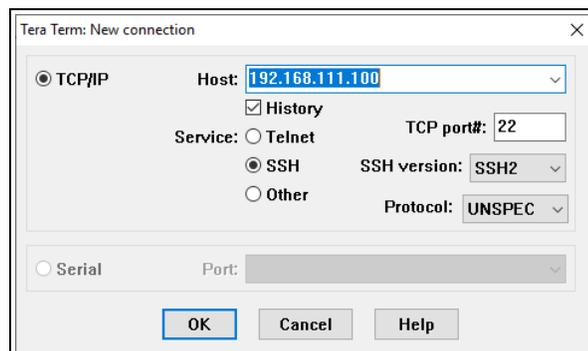

Figure 115: Tera Term: New Connection window
2. Click **Continue**. The **Tera Term: New Connection** window opens. Figure 115